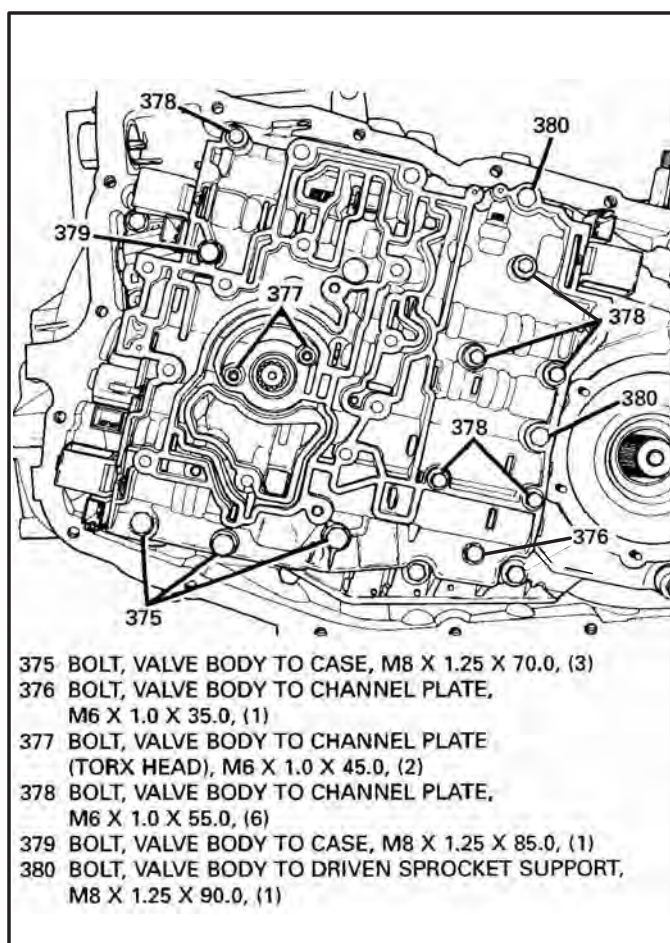

Figure 50
18. Remove the valve body retaining bolts that are indicated in Figure 50.